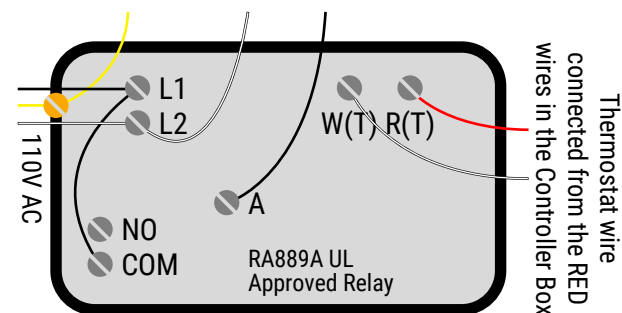

Fig. 18
- **Single Fixture Connection (Fig. 18):**